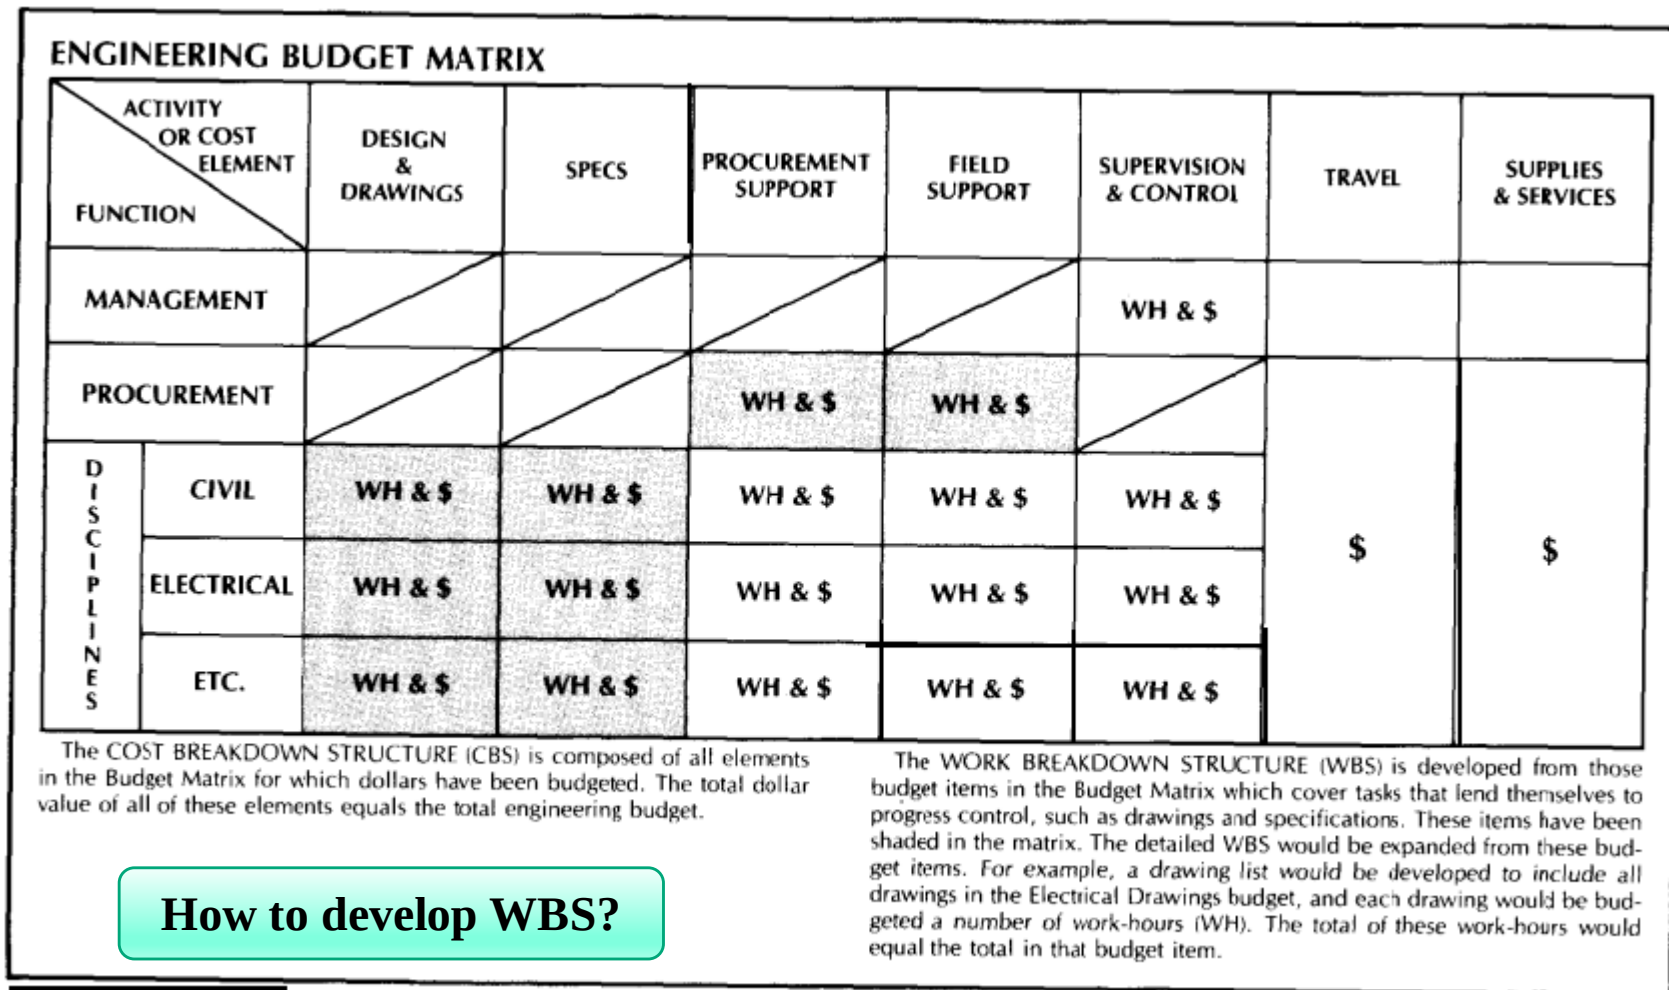

Figure 1. Engineering Cost Breakdown Structure and Work Breakdown Structure
- ❑ Referring again to Figure 1, this matrix is a **visual representation** of the CBS for an **example project**.
- ❑ On Figure 1, the shaded portions are the **budgets** for those elements of the CBS which will **comprise the WBS** for this example project.